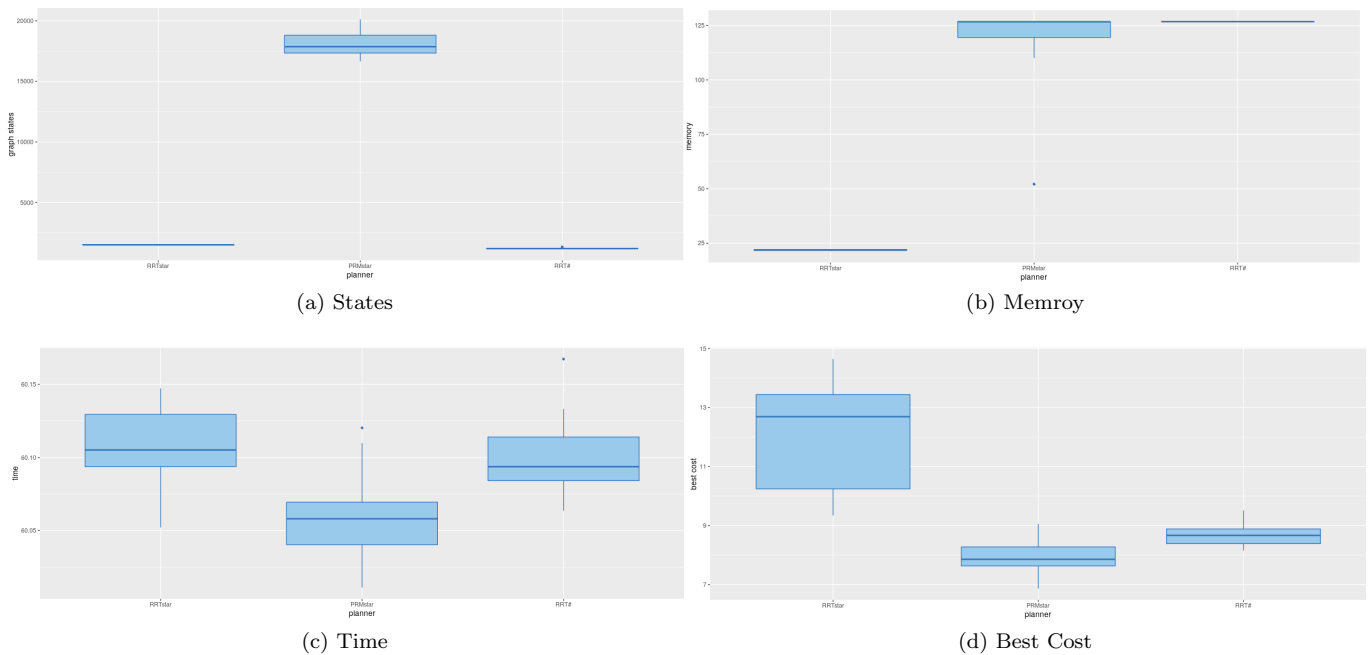

Figure 9: Uniform Sampler
The Figures 9, 6, 7 and 8 show the different solution metrics for the samplers:
- Benchmark rrtstar, prmstar, and rrt# using your the custom clearance objective. In your report, identify the most effective planner and explain the results with figures from PlannerArena. Include the benchmarking figures from plannerarena in your submission. The Figures 9, 6, 7 and 8 show the different solution metrics for the planners: